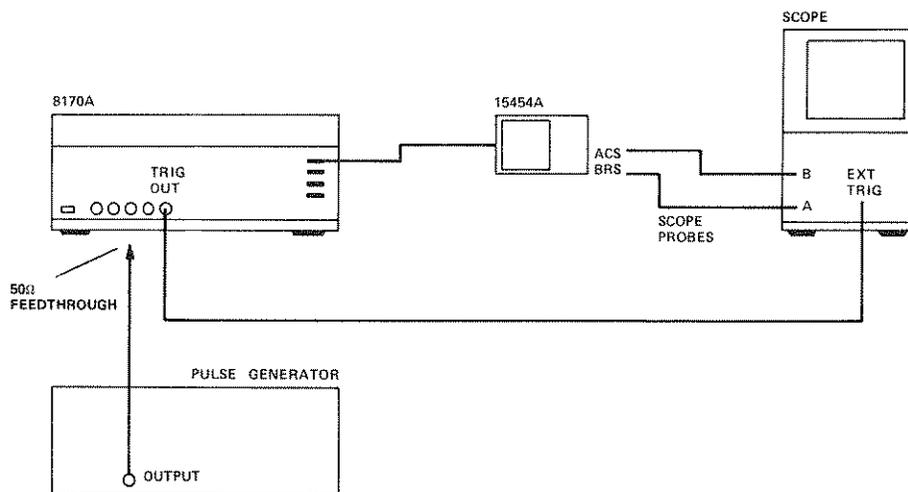

Figure 4-4. Test Setup for Ext Clock and State Function Test
1. Connect the equipment as shown in Figure 4-4.